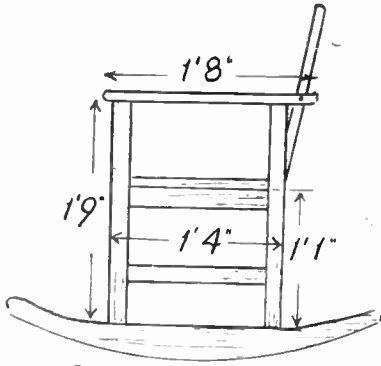
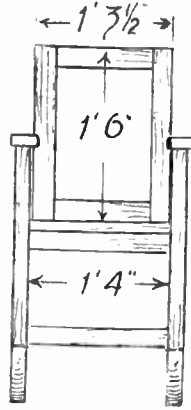
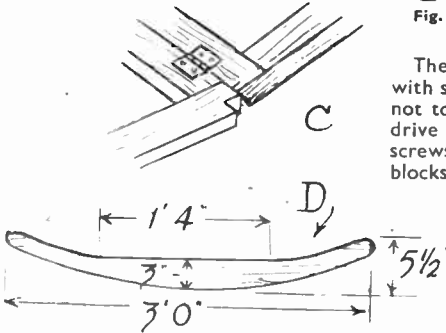

Fig. 1—Side view of main parts
Fig. 2—Front view of chair
Fig. 5—The rocker and back hinging
Fig. 1 is a side view of the chair, and Fig. 2 a front view, giving the necessary dimensions. Any other measurements necessary can be taken as the work progresses, or will be found in the text. A cutting list at the end of the article is added, as a help to ordering the wood.
The arm rests are cut to length given in Fig. 1 from 1 in. by 2 in. wood. Note that these are to be fitted on the top of
The back frame is seen in Figs. 1 and 2, and is similarly made up as the seat frame, from 1in. by 2in. wood. Readers who do not mind a little extra trouble can well joint both frames together with mortise and tenon joints and make a more professional looking article. This back frame is then hinged to the seat frame, after the latter is fitted in place, with 2in. iron butt hinges, as at (C), Fig. 5.
To complete the woodwork part of the job, only the rockers are now required. These are detailed more clearly at (D) in Fig. 5. They are cut from wood 1 1/2 ins. to 1 1/2 ins. thick, and 5 1/2 ins. long. First, from the centre part of the top edge, cut out a piece 1ft. 4ins. long, and 2 1/2 ins. deep, then from there, each side, shape up to the ends.